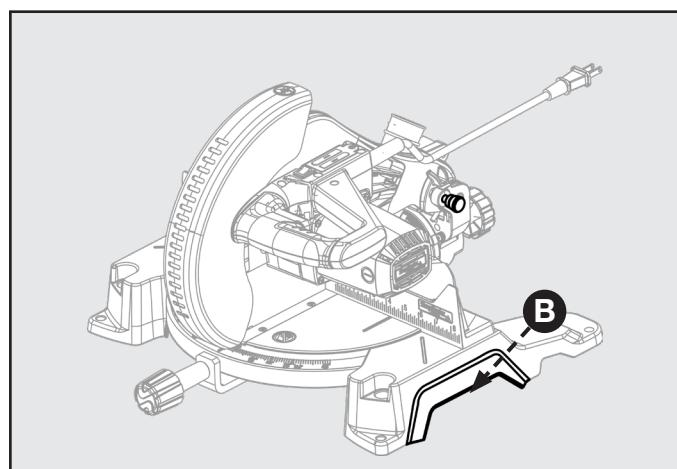

FIGURE 4
Use the carry handles which are designed into the base for safe and easy transportation of the saw. Shown in Fig. 4 (B).